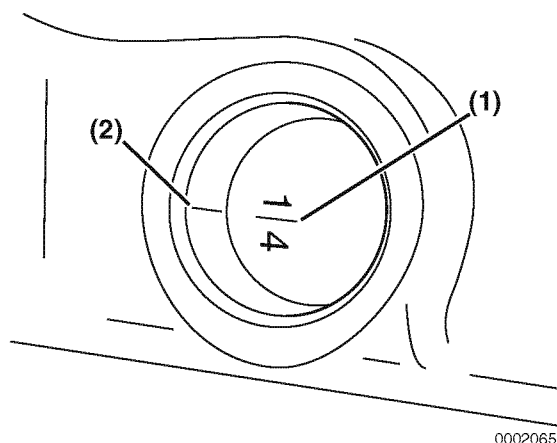

Figure 7-46
8. Highlight the timing reference mark (**Figure 7-46, (2)**) on the flywheel housing or engine back plate (**Figure 7-47, (2)**). Highlight the TDC (Top Dead Center) mark (**Figure 7-46, (1)**) on the flywheel.